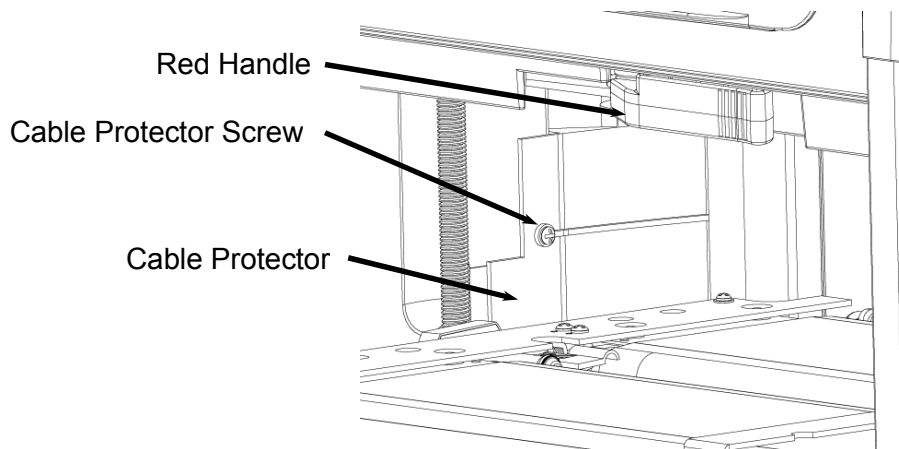

FIGURE 1: LOCATION OF THE HEAD CABLE PROTECTOR
2. **Remove the cable protector for the cables routed from the base to the movable head along the inside of the left side panel assembly.** Remove the single screw as shown in Figure 1 with a #2 Phillips screwdriver. Use a magnetic tipped screwdriver if possible to avoid dropping the screws into the machine. Remove plastic cable protector from the machine.